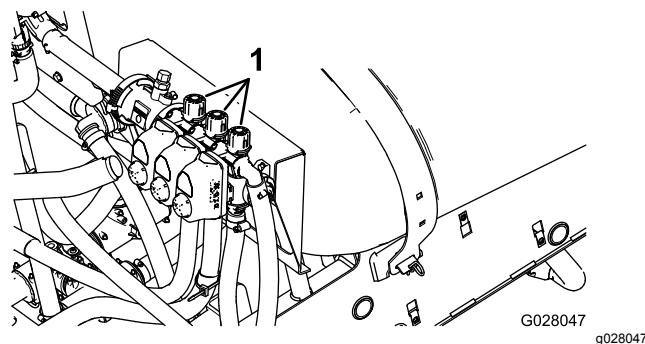

Figure 87
10. Turn off the left boom and adjust the boom bypass valve (Figure 87) until the pressure reading is at the previously adjusted level (typically 2.75 bar or 40 psi).
12. Adjust the right boom bypass valve (Figure 87) until the pressure reading is at the previously adjusted level (typically 2.75 bar or 40 psi).
14. Adjust the center boom bypass valve (Figure 87) until the pressure reading is at the previously adjusted level (typically 2.75 bar or 40 psi).